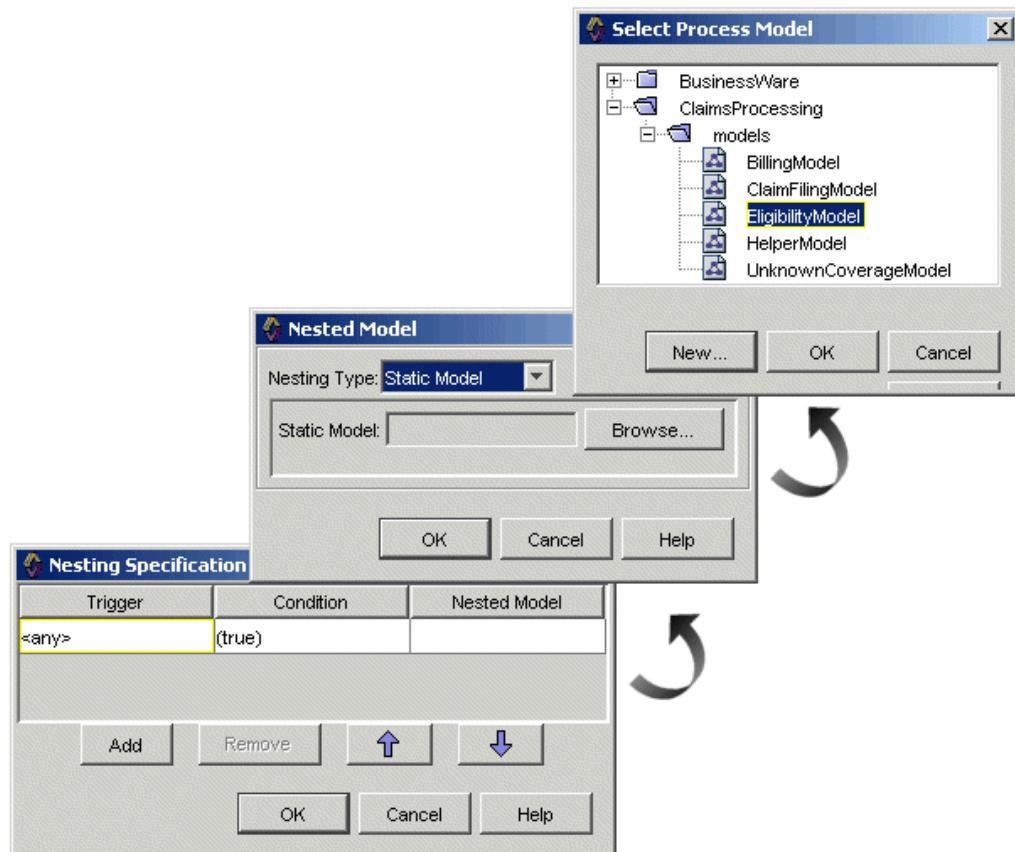

Figure 13-11 Selecting a Static Nested Model
4. In the Select Process Model dialog, select a model from the project (or dependent project) that will be statically bound. See Figure 13-11.